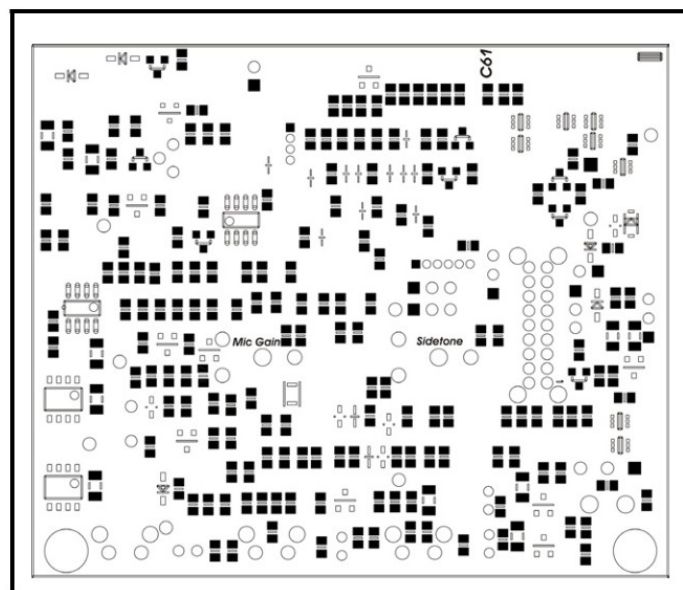

FIGURE 3. Printed Circuit Board
2. Refer to Figure 3 and locate C61 on the underside of the printed circuit board.